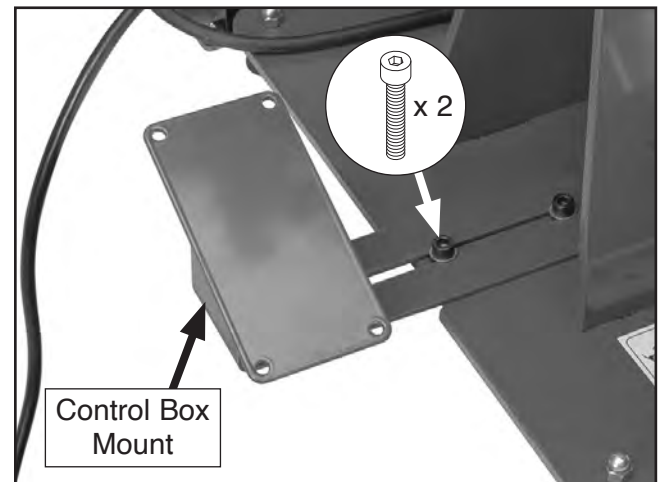

Figure 7. Control box mount fully extended.
1. Loosen (2) control box mount cap screws, fully extend control box mount from machine base, then tighten screws (see **Figure 7**).